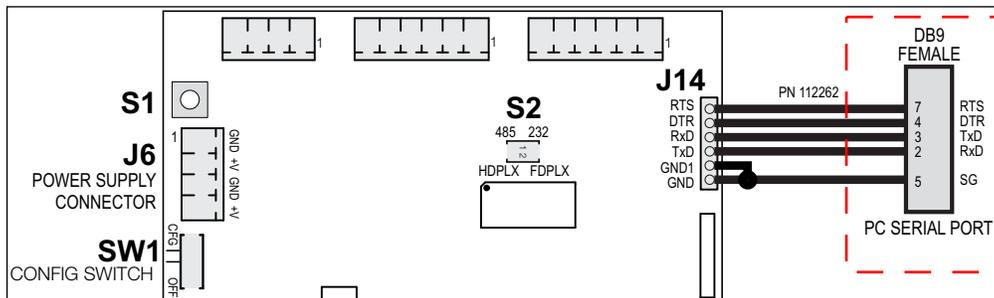

Figure 9-5. Host Connection to iQUBE2 CPU Board
4. Connect power to system and place in SETUP mode by moving SW1 to the CFG position (see Figure 9-5 on page 98).
4. Connect power to the system and place it in SETUP mode by moving SW1 to the CFG position (see Figure 9-5 on page 98).
5. Connect power to the system and place it in SETUP mode by moving SW1 to the CFG position (see Figure 9-5 on page 98).